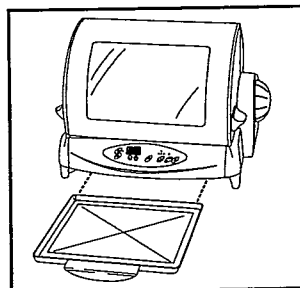

Figure 2
1. If not in place, slide Drip Tray into position as shown in Figure 2.